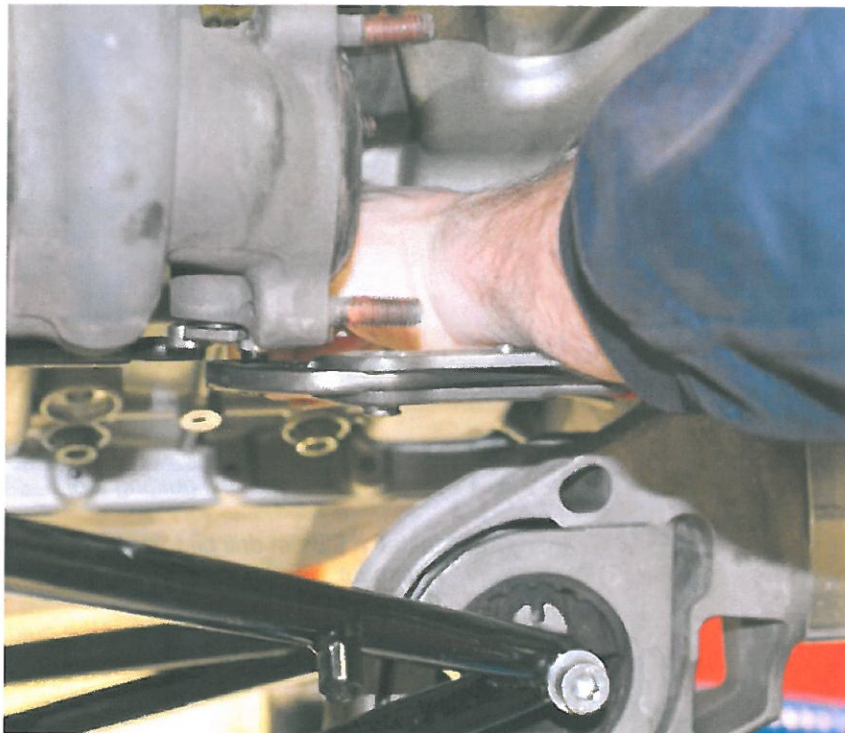

Fig. 3 Removing the pin
6. Remove/twist off the pin from the waste gate lever. At the same time hold the waste gate lever with the counter support in place. Use water pump pliers or locking pliers to remove/twist off the pin. See Figure 3.